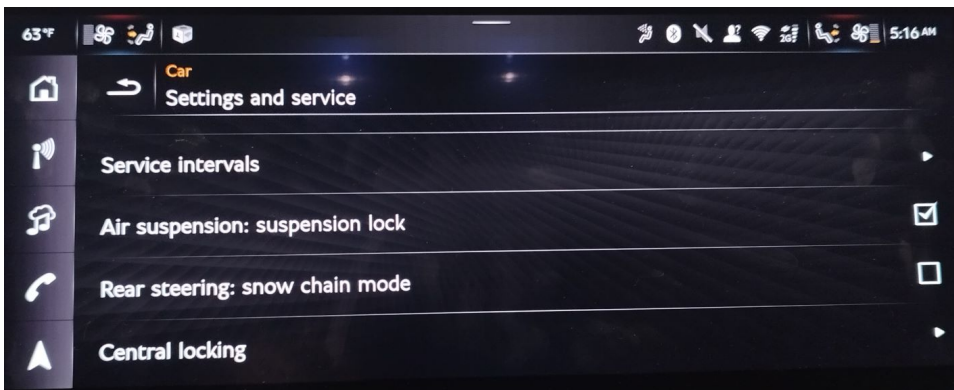

Figure 15
**IMPORTANT:** Set the vehicle suspension into "Jack" mode by checking the 'Air suspension: suspension lock' box on the vehicle's MMI (Figure 15).